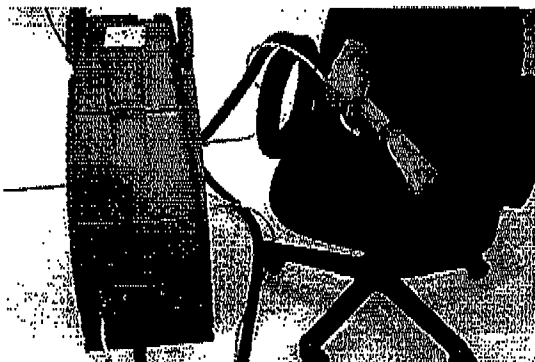

FIG. 10
3. Operate accessory tools as normal (Figure 10).